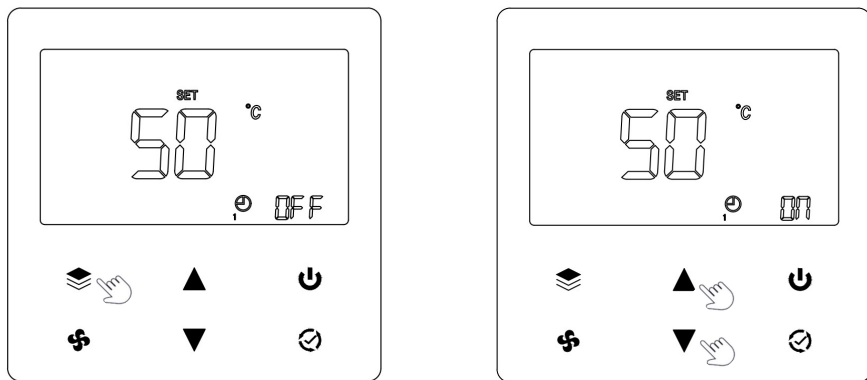

Figure 6. Enabling the timing of time period 1
2. After selecting a time period (for example, time period 1), short press “ ▲ ” or “ ▼ ” to enable or disable the timing. If you select “OFF”, the timing function is disabled. Otherwise, select “ON” to enable, as shown in Figure 6: